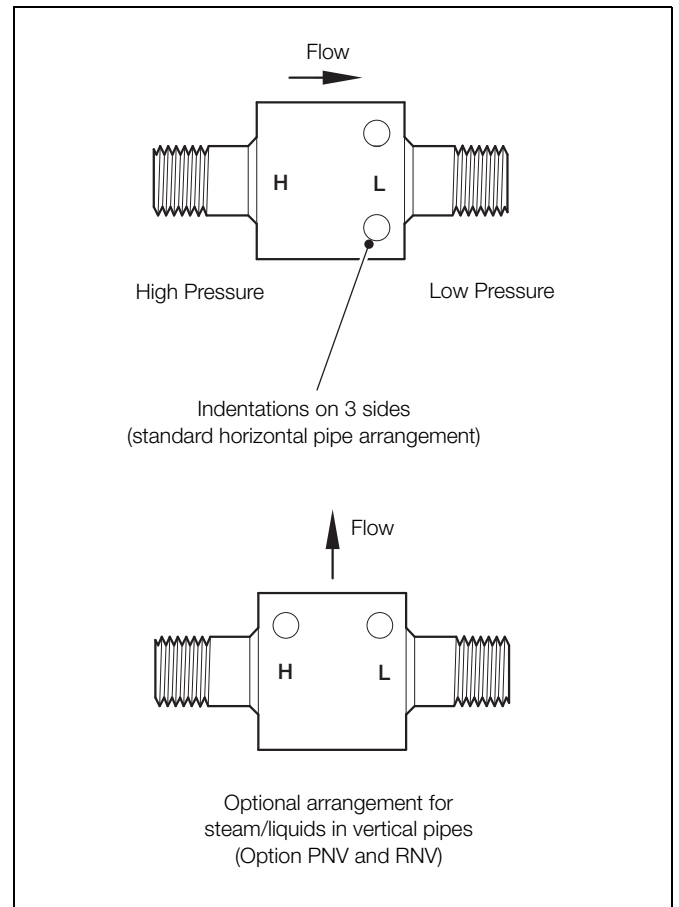

Fig. 2.1 Torbar Head Flow Alignment Marks
The direction of flow is indicated by the small indentations on the head – see Fig. 2.1. The indentations must be positioned on the downstream side of the flow and are clearly visible from various directions and distances. Exceptions to this are Models FPD350.T1.T1/W1/F1 and FPD350.T5, and Direct Mount Head options.
Referring to Fig. 2.1, install Torbar:
To ensure an equal head of gas, liquid or steam in both instrument lines, Torbar options PNV and RNV are designed so that the instrument lines are in the horizontal plane when the Torbar is installed (see Fig. 2.1).
10. Turn the Torbar until the indentation marks on the head are positioned downstream of the flow – see Fig. 2.1, page 3.
14. Turn the Torbar until the indentation marks on the head are positioned downstream of the flow – see Fig. 2.1, page 3.